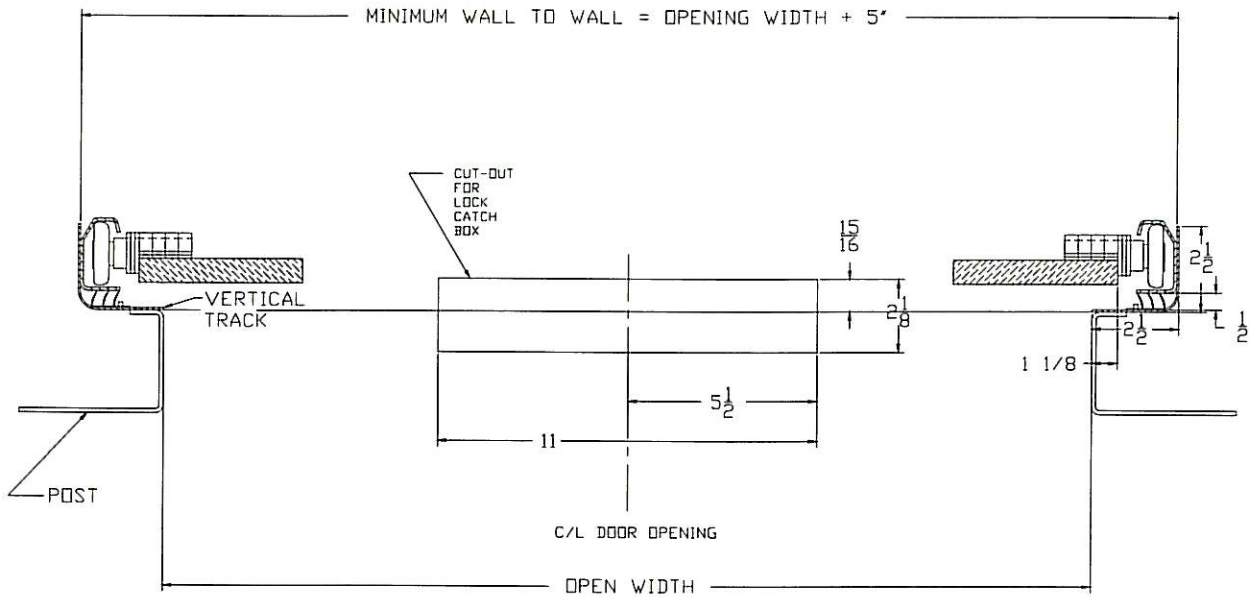

Figure 3
*See Figure 3 for clearance dimensions.
***See Figure 3 for catch plate installation.**